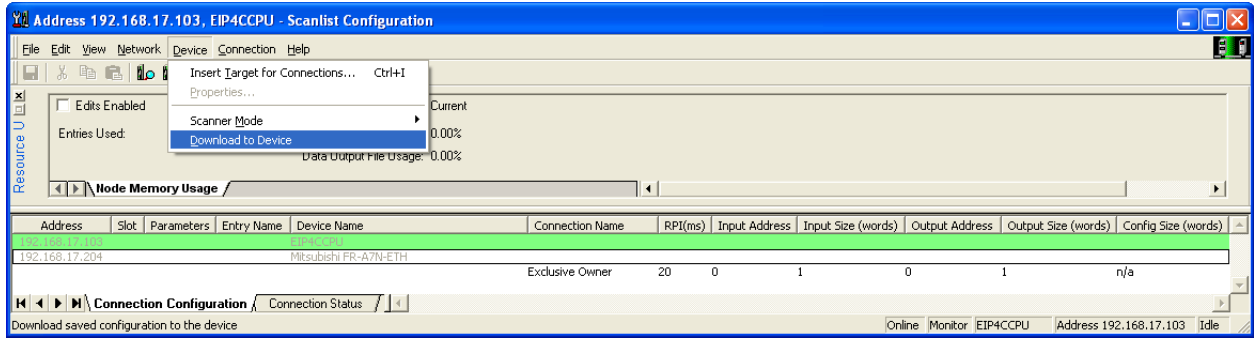

Figure 64: RSNetWorx Download Configuration to Scanner
d) Now download the configuration to the scanner by navigating to Device->Download to Device (see Figure 64). Click Yes to proceed.